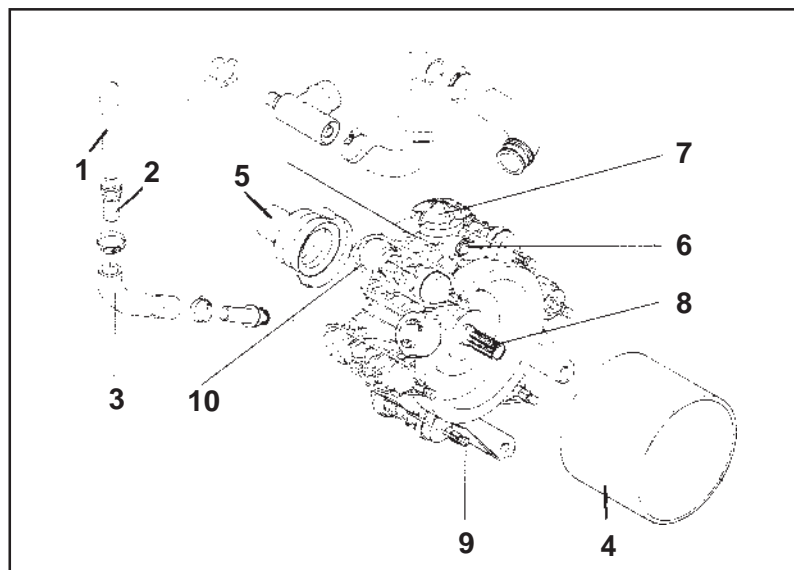
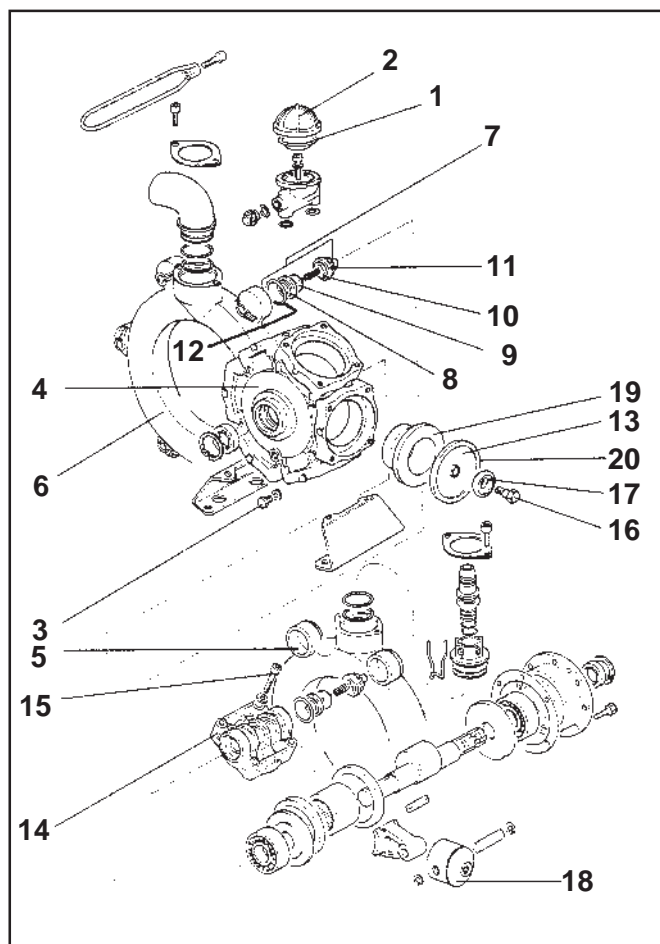

Fig. 9.1
Fig. 9.2
When refitting watch that the valve guide (Fig. 9.2/ 11) will not be damaged. Damages could lead to blockage of valves.
- Re-install pressure- (Fig. 9.2/ 6) and suction-tube (Fig. 9.2/ 5) to the pump housing and refit the tensioning clamp.
- Tighten the bolts (Fig. 9.1/9) always diagonally with a torque of **11 Nm resp. 18 Nm (BP 250)**.
An oil spray liquid-mixture in the oil filling plug or a clearly noticeable oil consumption is a safe sign of a piston diaphragm defect. In such a case all 6 piston diaphragms (fig. 9.2/ 13) should be exchanged.
Check the piston diaphragm (Fig. 9.2/ 13) at least one a year by dismantling.
- Slacken the bolts (Fig. 9.1/ 9 resp. 9.3/ 5).
- Remove the tensioning clamp (Fig. 9.1/ 10) as well as the suction- and pressure-tube (Fig. 9.2/ 5, 9.2/ 6 resp. 9.3/ 6, 9.3/ 7) including the valve groups (Fig. 9.2/ 7 resp. 9.3/ 8). **Pay attention to the fitting position of the suction- and pressure-side valves!**
- Take off the cylinder head (Fig. 9.2/ 14) after removal of the bolts (Fig. 9.2/ 15).
- Check the piston diaphragm (Fig. 9.2/ 13).